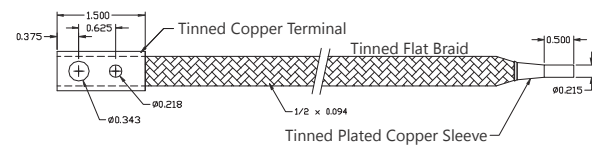

Figure 1
- 1 Comes with Ferrule on one end and tab on the other end (Figure 1). This strap must with used on ADB SAFEGATE in-pavement fixtures with UL 467 ground lugs.